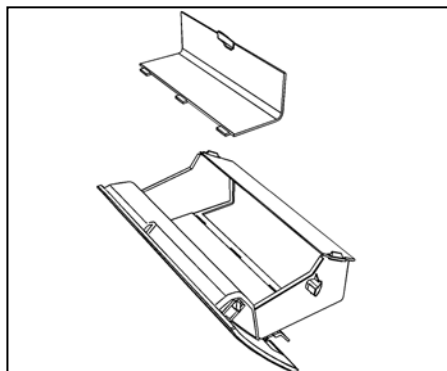

Fig. 4
9. Open instrument panel lower compartment and remove rubber mat (see Fig. 4).